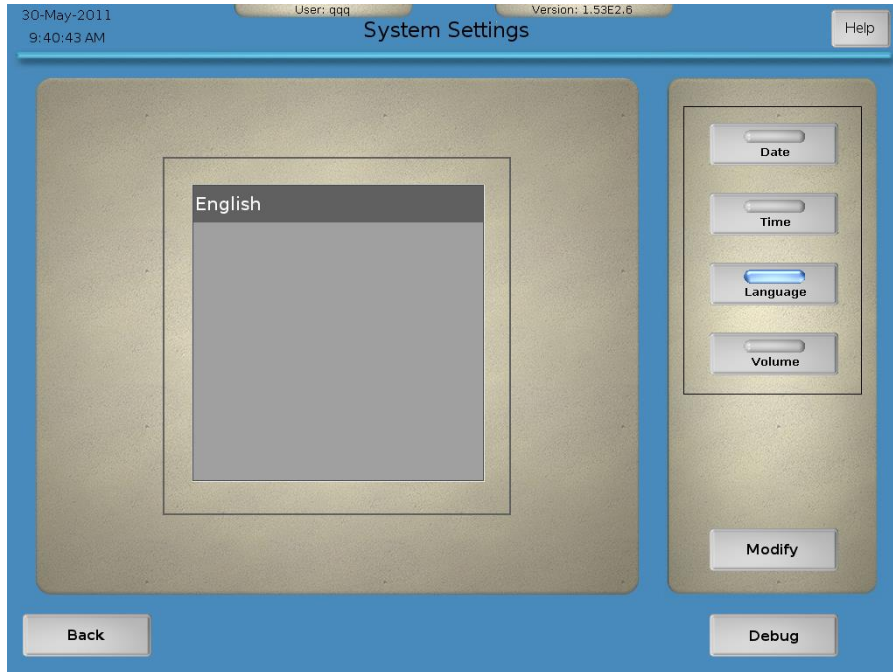

Figure 3-50. System Settings screen—language
- c) Language: Change the language by pressing on the desired language (Figure 3-50). Proceed to step 3.